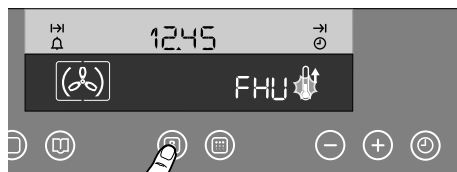

Fig. 18
4. Touch the "Fast Heat Up Function" control . The temperature display shows "FHU" (Fig. 18).